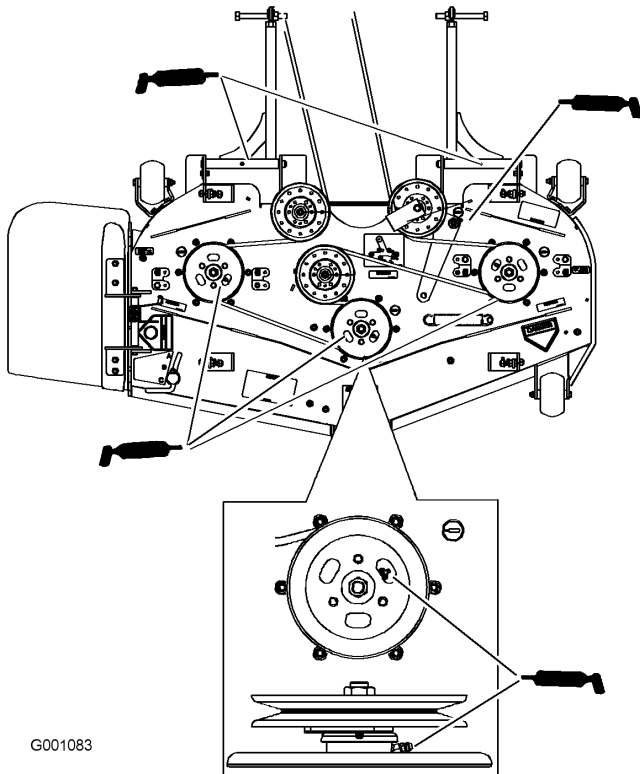

Figure 29
4. Grease the three spindle bearings under the pulleys until grease comes out the lower seals (Figure 29).
5. Grease the idler arm on the mower deck (Figure 29).
6. Grease the fittings on the push arms (Figure 29).